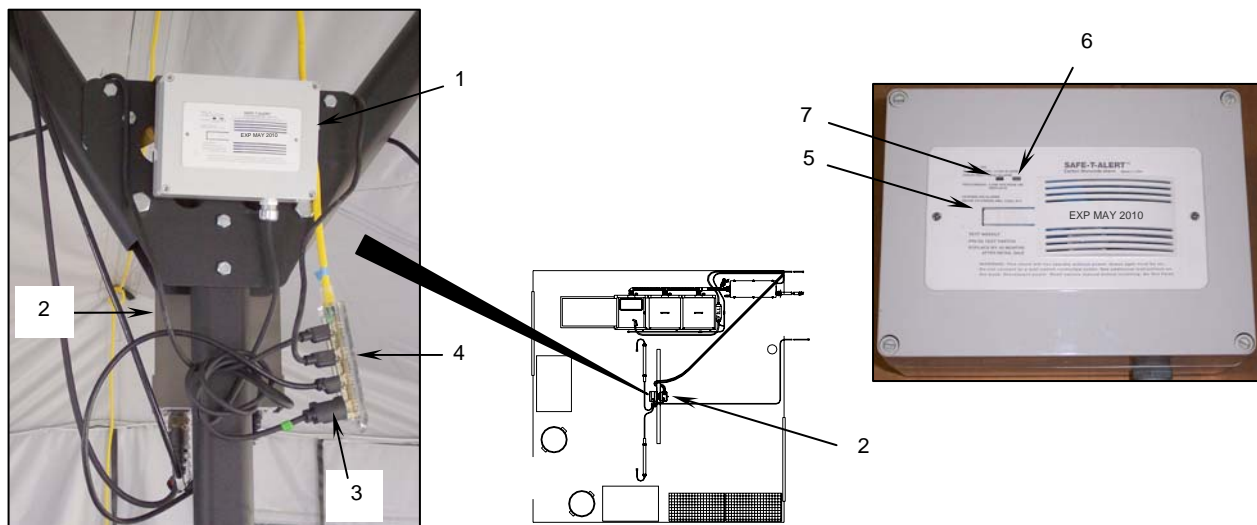

Figure 4. Installing the CO Monitor.
5. Install the carbon monoxide (CO) monitor as follows:
- a. Hang the CO monitor (**Figure 4, Item 1**) from the center pole of the tent opposite the power converter (**Figure 4, Item 2**).
- b. Plug the CO monitor power cord (**Figure 4, Item 3**) into an outlet on the end of the 100-ft extension cord (**Figure 4, Item 4**).
- c. Test the CO monitor by pressing the TEST/RESET (**Figure 4, Item 5**) button. The indicator light (**Figure 4, Item 6**) should change from green to red (**Figure 4, Item 7**) and the alarm horn (**Figure 4, Item 7**) should sound. If the test fails, troubleshoot or replace the alarm.